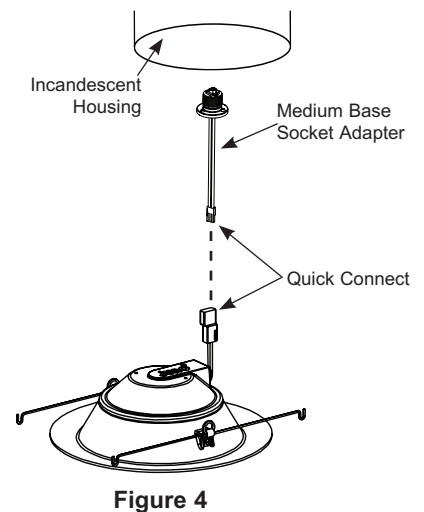

Figure 4
**Step 3. Installation into existing housings with medium base sockets:** Screw the medium base socket adaptor into the socket in the recessed housing. Plug the connector provided on the trim to the mating connector on the socket adaptor by pushing firmly to ensure connectors are securely fastened (see Fig. 4).